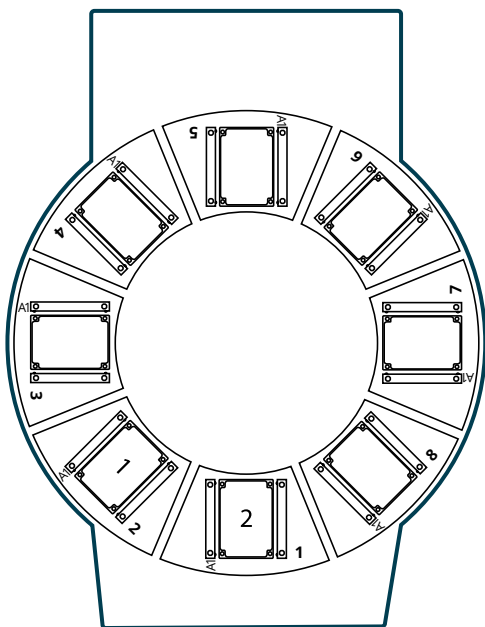

Figure 3: View from above on the plate positions in the CleanXtract 96.
11. Repeat this process for all the plates as indicated in Table 3 and Figure 3.